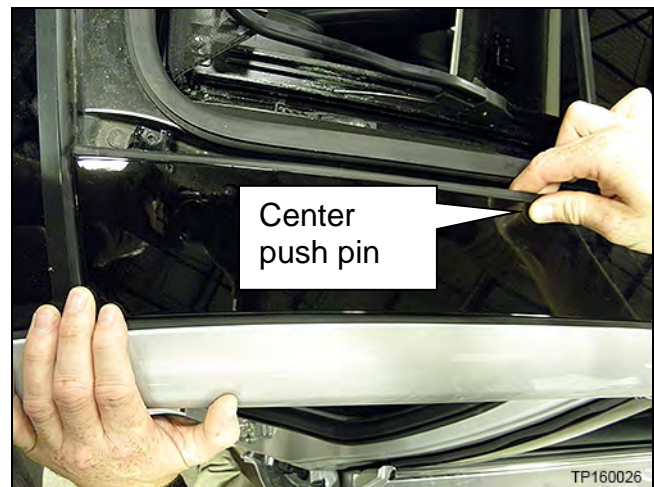

Figure 41
6. Starting from the front of the vehicle and moving rearward, attach each push pin to the roof (Figure 41).